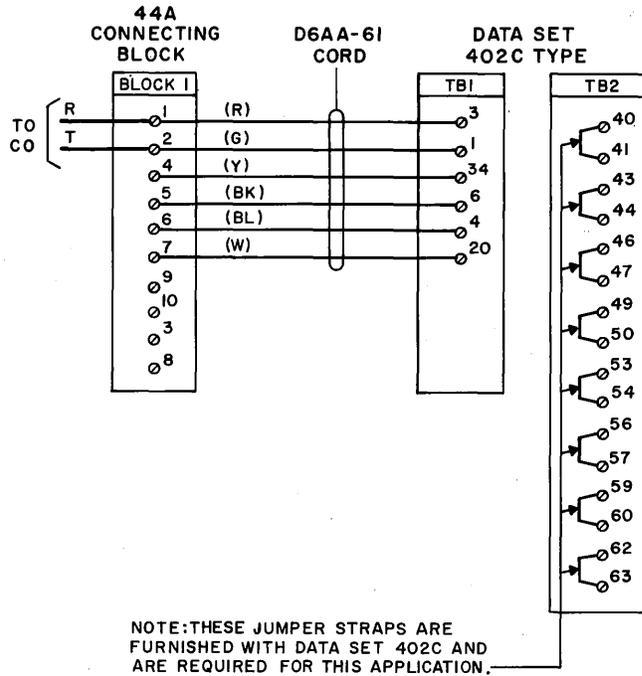

Fig. 2 — Connections, Data Set 402C Type, Transmit Only, Terminal
- 1.01 This section is reissued to add information to Table A, Fig. 2, 3, 4, and 5.
- 2.02 Connection information for the various service arrangements is shown in Fig. 2, 3, 4, and 5.